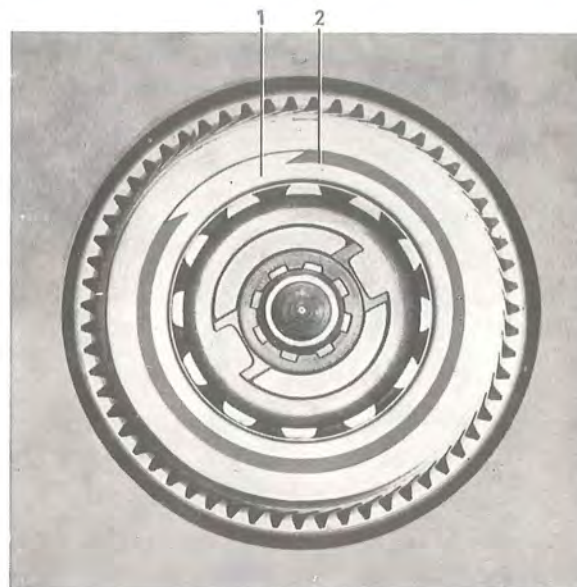

Fig. 4-54. Fitting the oil thrower
6. Fit the thrust washer and then the uni-directional clutch in position on the output shaft, see Fig. 4-53. Fit the oil thrower and install the circlip, see Fig. 4-54.